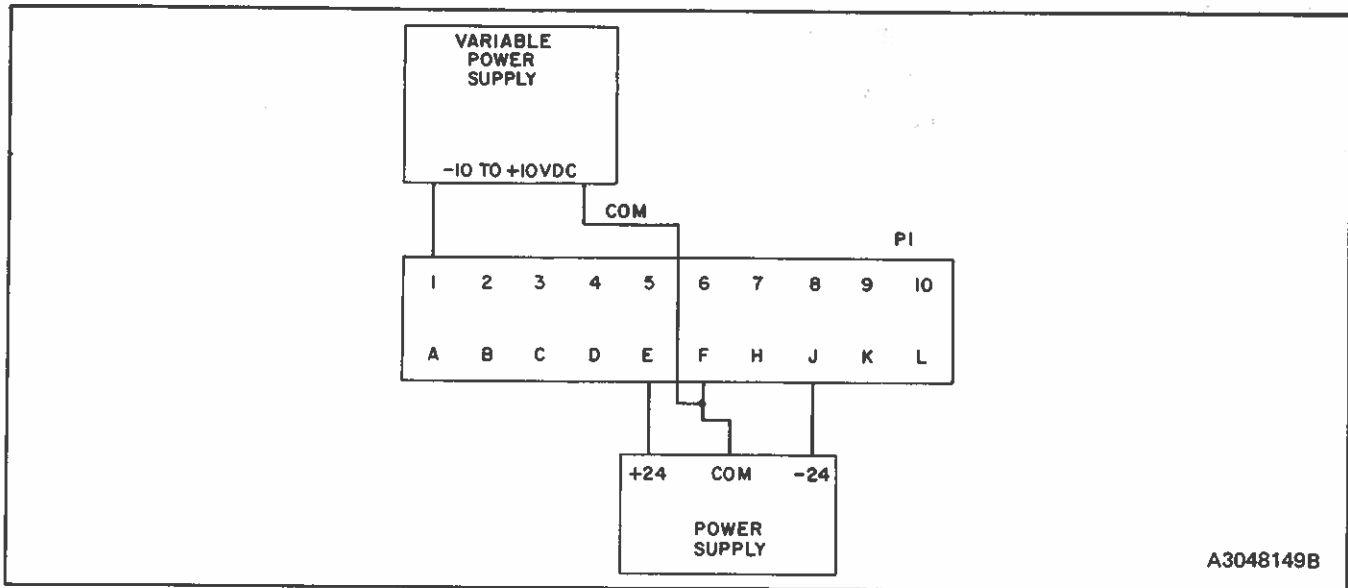

FIGURE 37 – Calibration Circuits for TY10, TY11 Measured Variable Stations
3. Connect Station to calibration circuit (Figure 37) and turn ON power supplies.